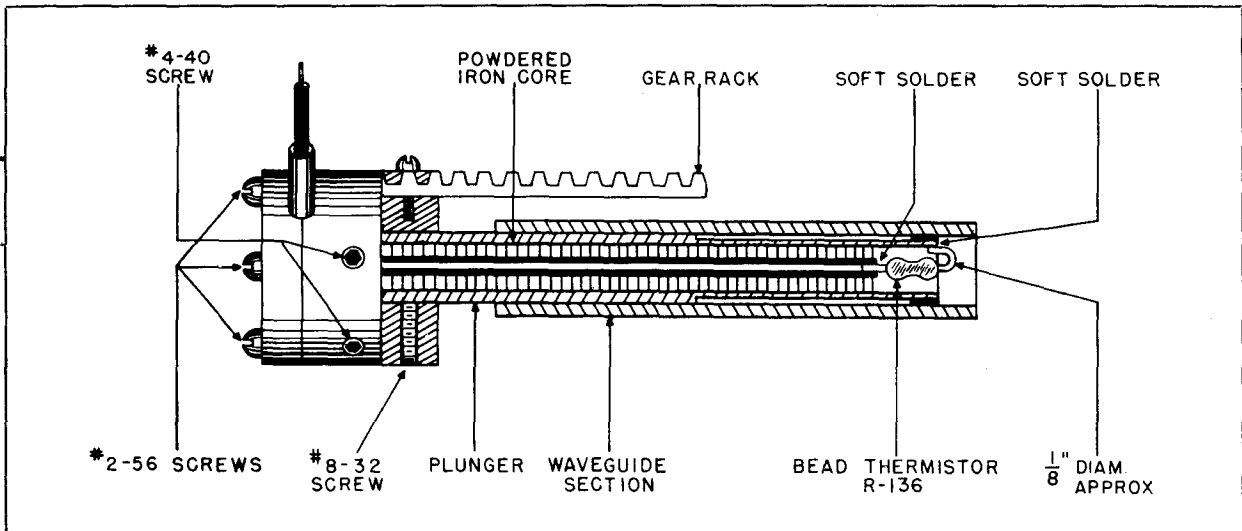

Figure 4-49. Cutaway View of Monitor RF Probe E-122
a. Remove the three #2-56 screws holding the cap on the monitor assembly (figure 4-49) and remove the cap.